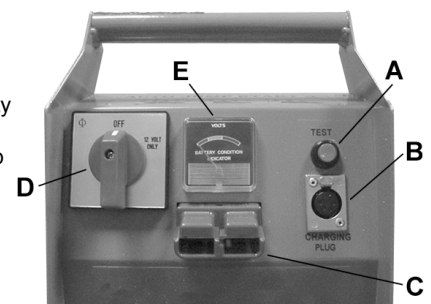
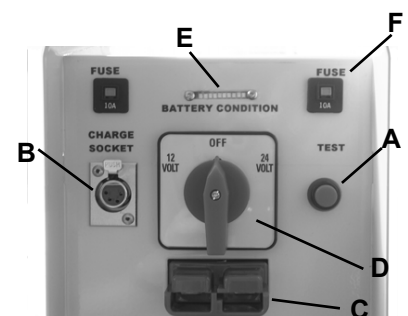

fig.1 POWERSTART200
fig.2 POWERSTART900
The charge level of the POWERSTART200 and 350 can be seen at any time by pressing the test button (fig.1.A) and noting the meter (fig.1.E) reading. When the needle is in the green sector the unit is fully charged and is ready to be used. The red sector indicates that immediate charging is required and the yellow sector indicates that recharging is advisable.
- 4.1.1. For the POWERSTART500 and 900 models press and hold the test button, the LED's (fig.2.E) from left to right, four orange (low power) and six green will light up one by one and stop at the level of charge, the further to the right the higher the charge.
4.2.1. Ensure that the Powerstart control switch (fig.1.D) is in the 'Off' position.
4.2.3. Plug the charger cable into the charge input socket (fig.1.B) of the unit. The unit will now charge automatically and the charger LED's will indicate the level of charge. When the green 'Full' LED comes on, charging is complete but the charger should not be disconnected or switched off.
5.7. With the Powerstart control switch (fig.1.D & fig.2.D) set to 'Off' plug the leads into the socket (fig.1.C or fig.2.C).
5.8. On models POWERSTART350 POWERSTART500 AND POWERSTART900 turn the control switch (fig.2.D) to select 12 or 24V to match the vehicle voltage. On the Powerstart350 to select 24V the switch knob must be pulled out and then turned. On model POWERSTART200 turn the switch (fig. 1.D) to select 12V.